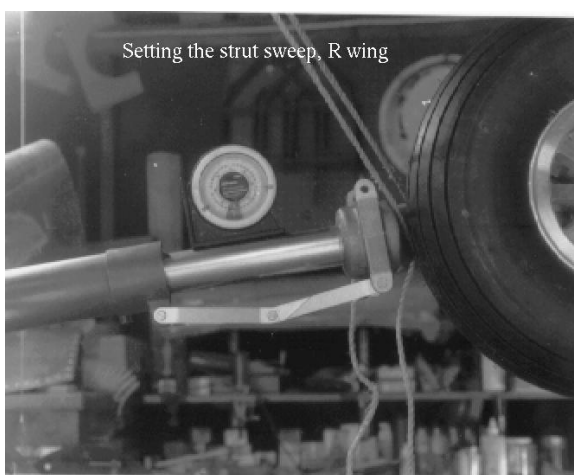
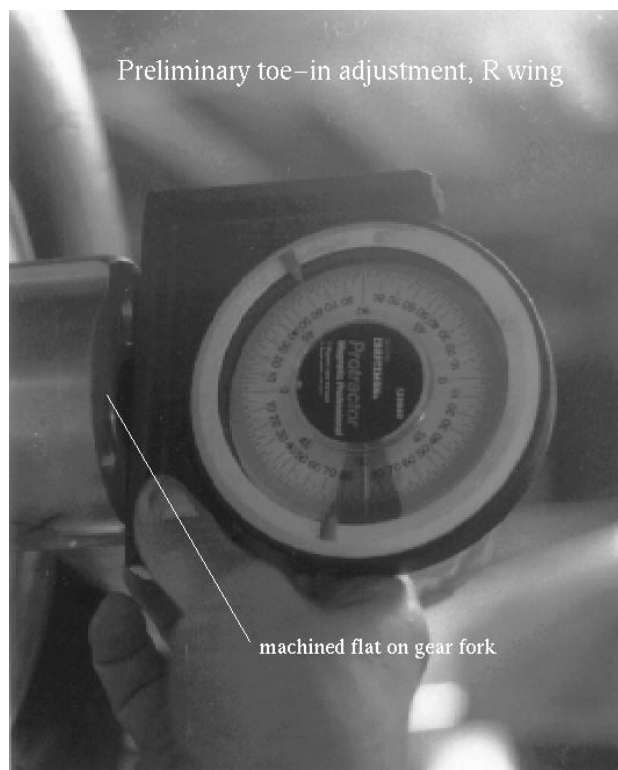
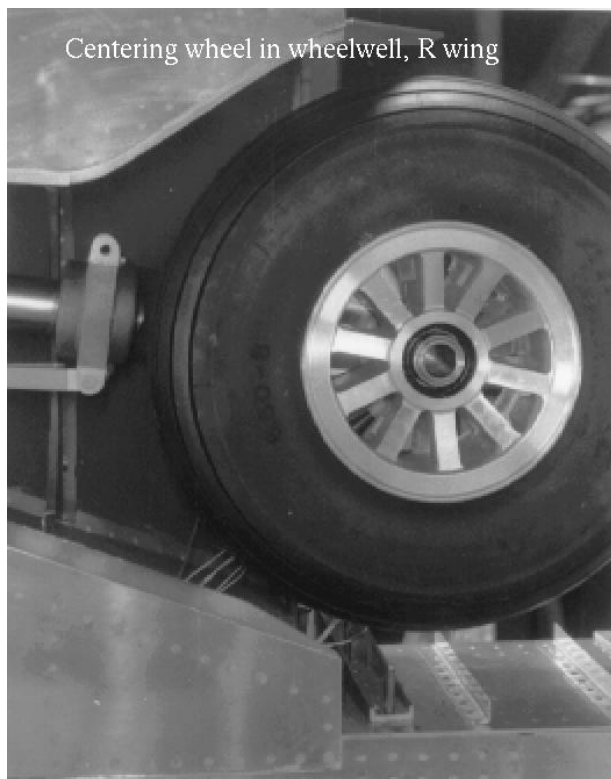

Figure 1.14. It's easy to set the sweep in the forward direction, particularly if the wing root is held vertical.
Figure 1.15. The easiest place to measure the toe-in is the flat machined on the outboard side of the fork. Adjust for zero toe-in.
Figure 1.16. This is what the wheel should look like with the trunion completely seated in the front bearing.
It's certainly safest to do the gear installation with the wings mated and supported on stands. However, if you want to do it with the wings in the fixture, the following procedure has been used satisfactorily. First rotate the wings so that the root datum line is vertical with the leading edge up. Use a combination square against the lower spar cap as a reference for the  $96^\circ$  angle. To satisfy (1), hang a couple of plumb bobs from the strut as shown in Figure 1.13, then use these to position the gear strut tangent to the square. With the root datum line vertical, you can easily set the  $10^\circ$  sweep with a combination square or pendulum protractor (Figure 1.14). *Displacement of the rear bearing towards the top and bottom skins mainly influences the sweep.* Next rotate the wheel to zero toe-in (Figure 1.15), then rotate the gear into the up position. *Moving the rear bearing inboard and outboard mainly influences the centering in the wheelwell* (Figure 1.16). Be sure to account for the gear not being completely seated in the front bearing, e.g. you want the wheel centered *when the trunion seats against the front bearing.*